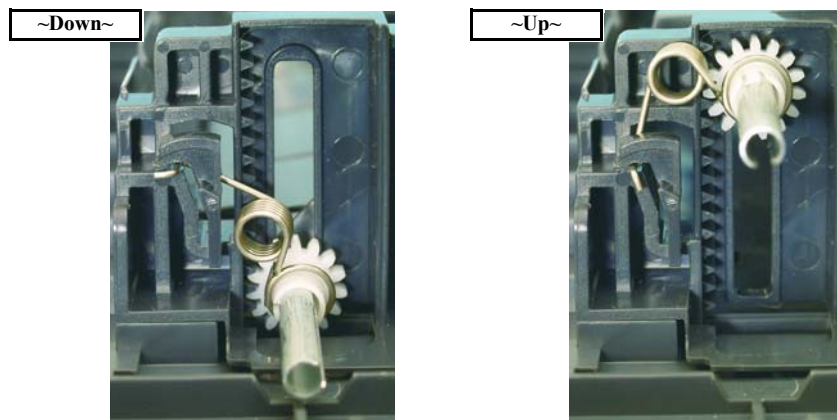

Figure 4-55. Installing the CD-R Guide Lever Spring
- See Fig. 4-55 for installation of the CD-R Guide Lever Spring.